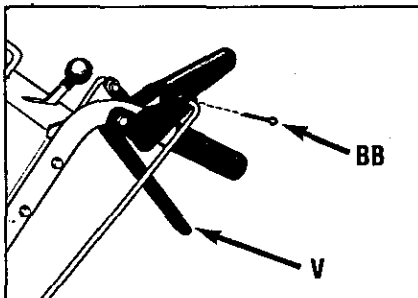

Figure 2-4: Attach wheel drive control rod to lever.
- At upper end of control rod, secure angled end to Wheel Drive Control lever (V, Figure 2-4), using a cotter pin (BB). Bend ends of cotter pin to secure.